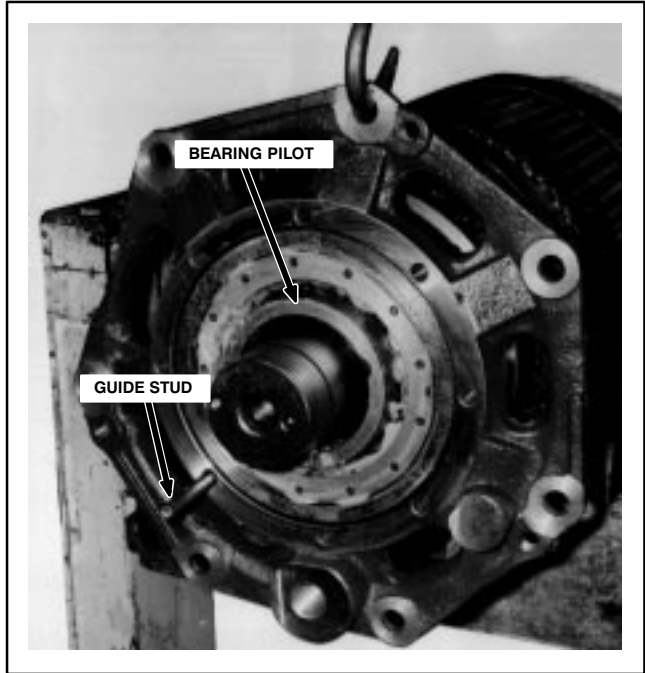

FIG. 20. DRIVE-END FRAME HEAD AND BEARING ASSEMBLY. E-27166.
10. Supporting the weight of the frame head (10) with a hoist, slide the frame head, drive-end bearing outer race and rollers assembly over the bearing pilot and guide stud onto the rotor shaft (37), seating tightly against the drive-end inner bearing cap (11) and gasket (Fig. 20). Hold the frame head and bearing in place until the frame head is bolted to the inner bearing cap in Step 11.
11. Remove the bearing pilot. Apply the gasket over the guide stud to the drive-end frame head (10). After removing the guide stud, secure the dummy drive-end bearing cap and frame head to the inner bearing cap with eight bolts and flat washers (6).